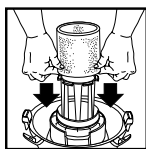

FIGURE 26
42. With tank cover in an upside down position, slide foam sleeve down over lid cage pulling until foam sleeve completely covers lid cage. **FIGURE 26.**